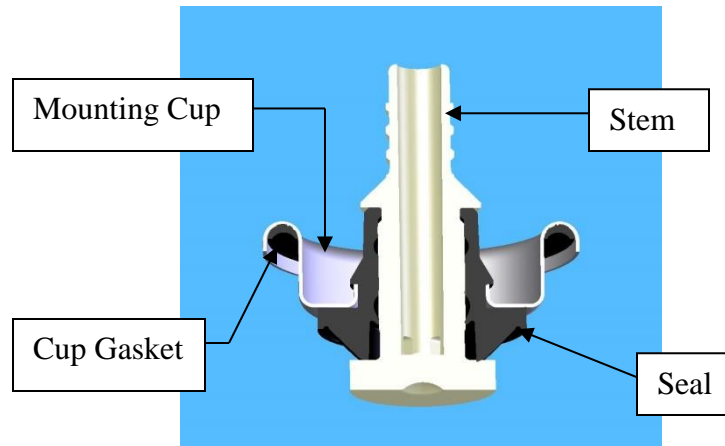

Figure 5 – Valve Cross Section
2. Valve: For our purpose we will focus on the valve's mounting cup. This is the portion of the valve that will be attached to the can (see Figure 5).